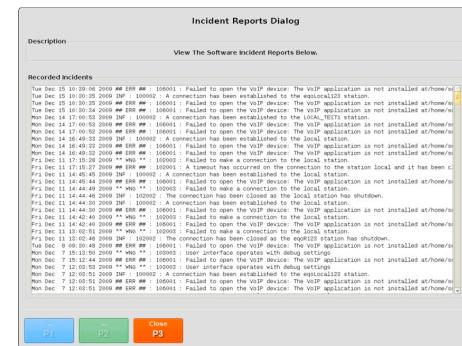

Fig. 42: “Incident Report” dialog
- ▷ In the “Diagnostics” menu navigate to the “Incident Report” menu item and select it by pressing **P1**. The “Incident Report” dialog is displayed (see Fig. 42).